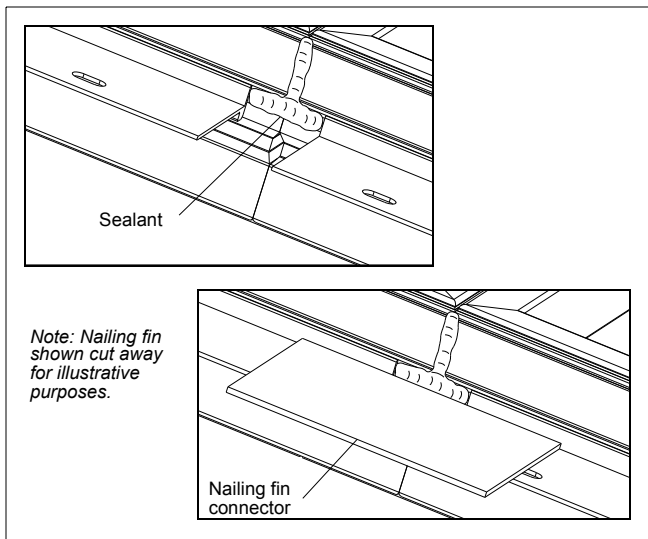

Figure 28
4. Apply silicone sealant at the mullions from the frame exterior edge to the drip cap/nailling fin kerf and across the kerf over the mulling pin as shown in figure 28. Apply nailing fin connector at the head jamb, sill, and jambs by removing the paper backing from the connector and pressing into place. See figure 28. If applicable, jamb extension can now be installed. Follow installation instructions for installing unit into rough or masonry opening. Interior mull trim should be applied after unit is completely installed and interior trim is applied.